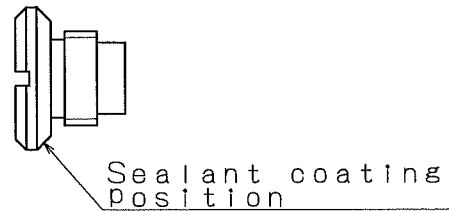

Fig.19
- ③ Degrease Lock screw(21) and its setting position on Casing(1) using solvent.
- ④ Apply sealant to the bearing surface of Lock screw(21) and tighten it with a torque of $20 \sim 25 \text{ N} \cdot \text{m}$ $\{2.0 \sim 2.5 \text{ kgf} \cdot \text{m}\}$. (See Fig. 19)